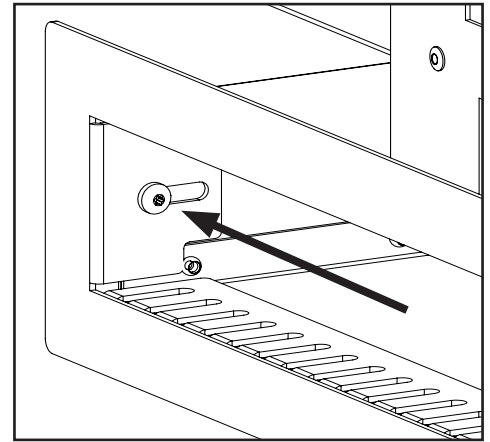

Figure 20. Outlet Trim Bezel Screw
Step 2: Using a T20 screwdriver, remove the screw on each side of the CSS outlet retaining the Outlet Trim Bezel and remove the Bezel (Figure 20).